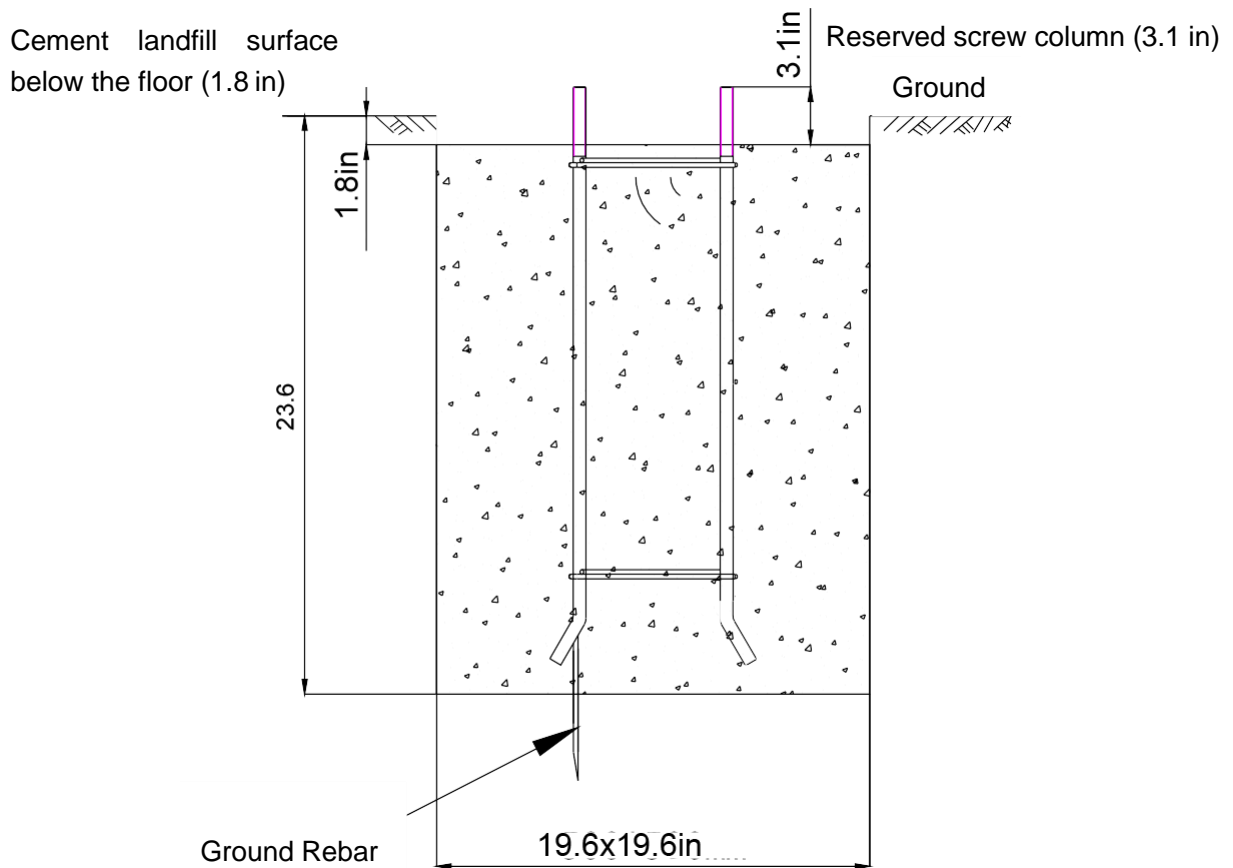

Figure 17
- ③ As shown in figure 17, put cage in a pit in the middle, at a good measuring position and height, to ensure that the height of the cement, is parallel to the side of the cage and road.
- ④ The cage is fixed with cement on pit reserve screw column about 3.1 inches, see Figure 17.